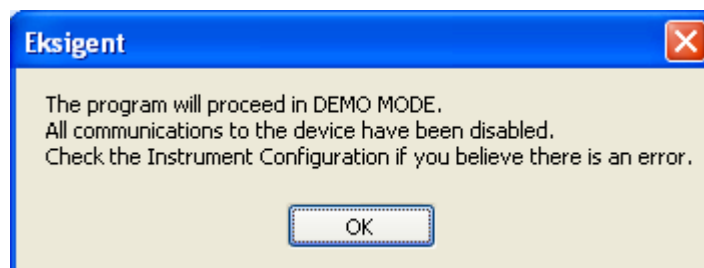
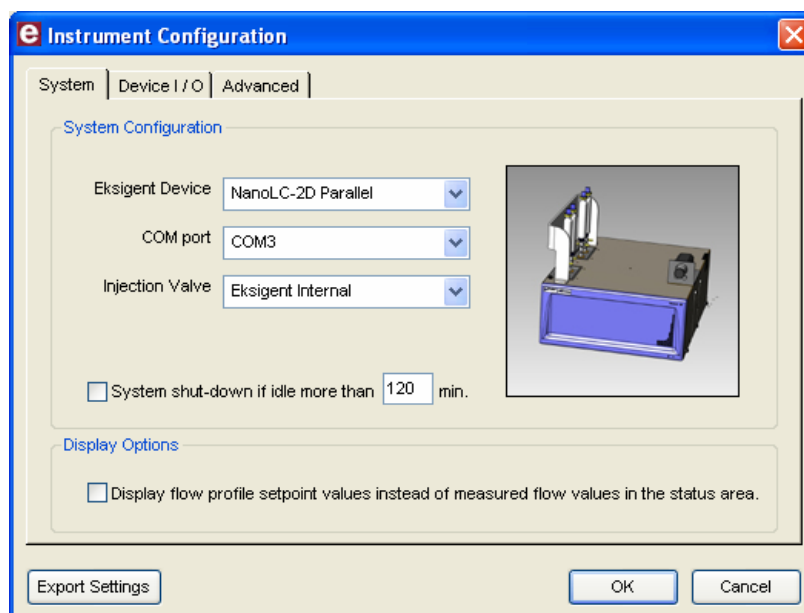

Figure 2-7. Running the Software in Demo Mode
Figure 2-8. Instrument Configuration Window
- step 1* Launch the control software. The COM error in Figure 2-8 will appear. Click on 'Cancel.' A second window will appear (see Figure 2-7). Click on 'OK' to enter the software in DEMO MODE.
- step 2* Select **System > Instrument Config...** from the Control Software's Acquisition Window to access the **Instrument Configuration Window** (see Figure 2-8).
The **Instrument Configuration Window** (Figure 2-8) is used to indicate which components are installed. It also sets the communications protocol and configures the system to work with other connected devices. Several instrument performance parameters are also set in this window.